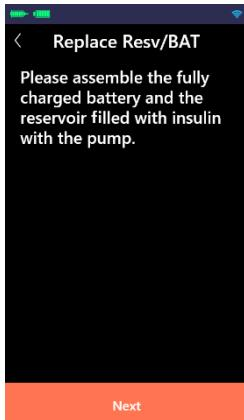

Figure A.8.2
(2) Please assemble the fully charged battery and the reservoir filled with insulin with the pump (as shown in Figure A.8.2). After the assembly is completed, please click "Next".